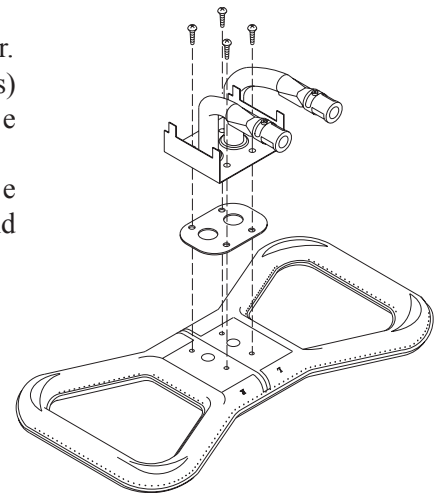

Figure 16
3. Lay the burner face down and remove the four retaining screws from the venturi tube plate and the burner. Figure 16.